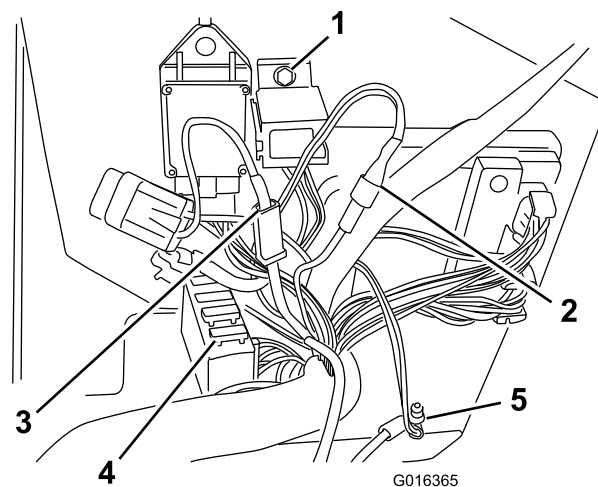

Figure 15
Note: Secure the ring terminals in the position shown on the lower part of the panel (Figure 15).
- Secure the flasher relay base to the position shown on the side panel with a hex-head bolt (M5 x 16), a locknut (M5), and 2 washers (M5) (Figure 15).
6. Plug the twin pink wire (male-blade terminal) into the pink wire of the main wire harness (female receptacle) (switched positive) as shown in Figure 15.
7. Plug the red wire (male-blade terminal) into the red wire of the main wire harness (female receptacle) (switched positive); refer to Figure 15.
8. Replace the 10-amp fuse with the 20-amp fuse from the kit (Figure 15).